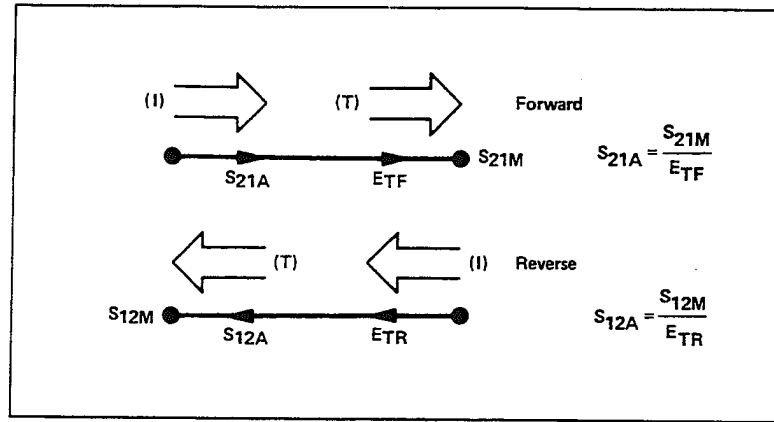

Figure 7-60. Transmission Coefficient
**Measuring Transmission Coefficient.** The transmission coefficient is measured by taking the ratio of the incident signal (I) and the transmitted signal (T) (Figure 7-60). Ideally, (I) consists only of power delivered by the source, and (T) consists only of power emerging at the test device output.